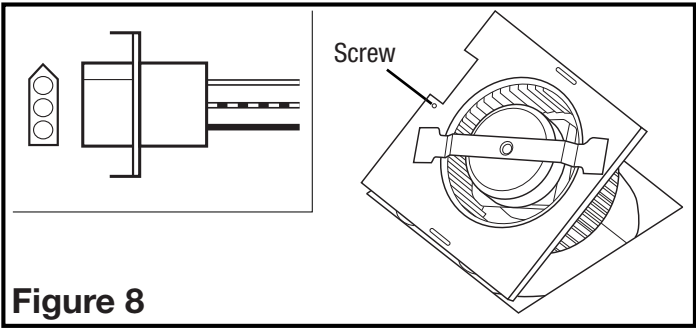

Figure 8
- 1. Reinstall the fan's venturi by holding it at approximately a 45 degree angle, hook the two tabs on the venturi into the slots on the housing and secure in place by tightening the venturi screw. Rotate the blower wheel by hand to ensure it spins freely. Plug the fan's quick connect motor cord into the receptacle. This cord will only fit one way into the receptacle (Figure 8).